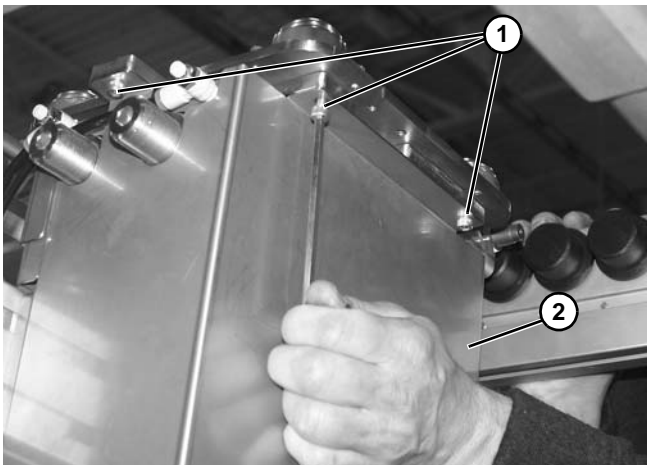

Figure 98
2. Remove optional guarding by removing three screws (**Figure 98, item 1**) on each side securing cylinder guard (**Figure 98, item 2**).